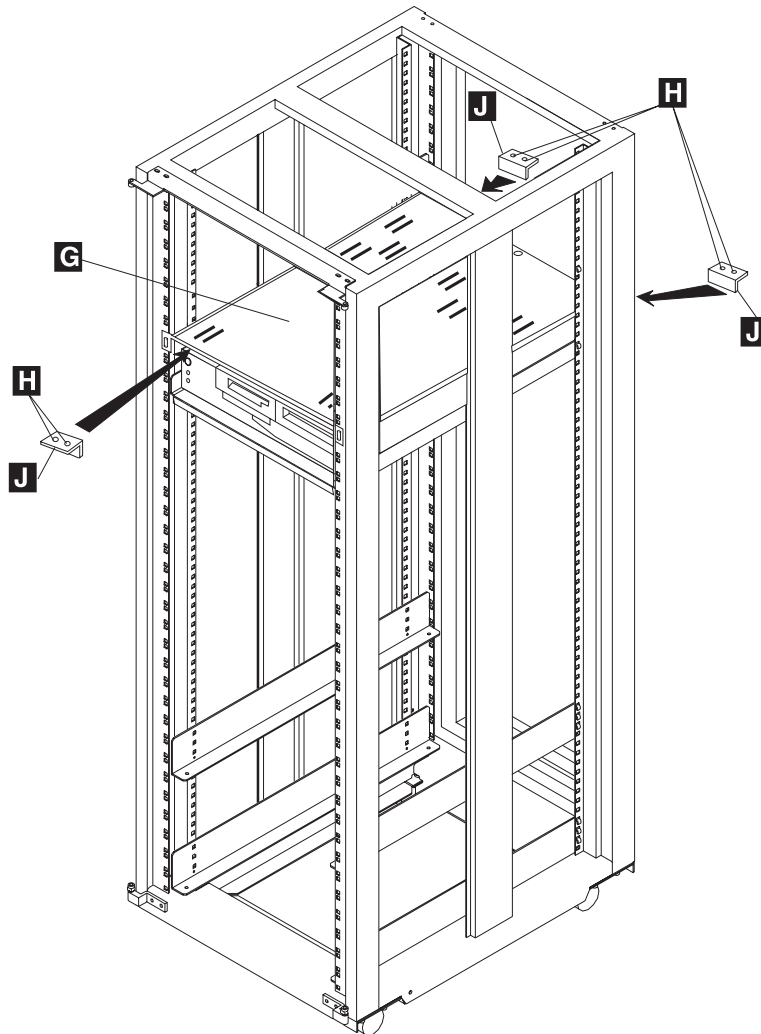

Figure 1-15. Installing the Retainers to Secure the NAS in a 37U rack (Earthquake)
9. ____ From the rear of the rack. Push the NAS against the retainer previously installed. Install two retainers **J** under the upper plate **G** in order to maintain the NAS. Secure them using screws **H** (see Figure 1-15).